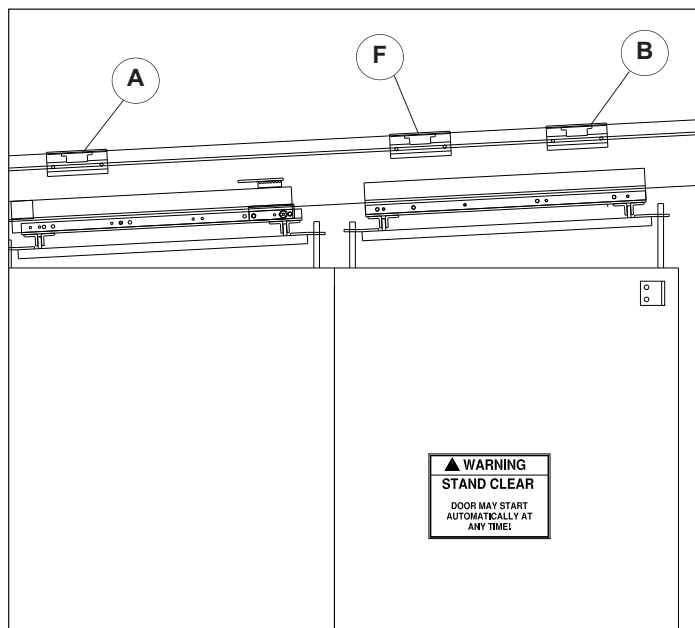

Figure 23.1
3. Position door between the open and closed limit switches and not on the approach open limit switch, Figure 23.1.